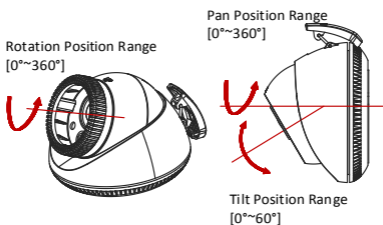

Figure 2-7 3-axis Adjustment
Step 4 Install the camera onto the wall. In Figure 2-7, part A is for wall mounting with sticker and press the camera to the wall. Part B is for wall mounting with screws and use screws to install the camera.